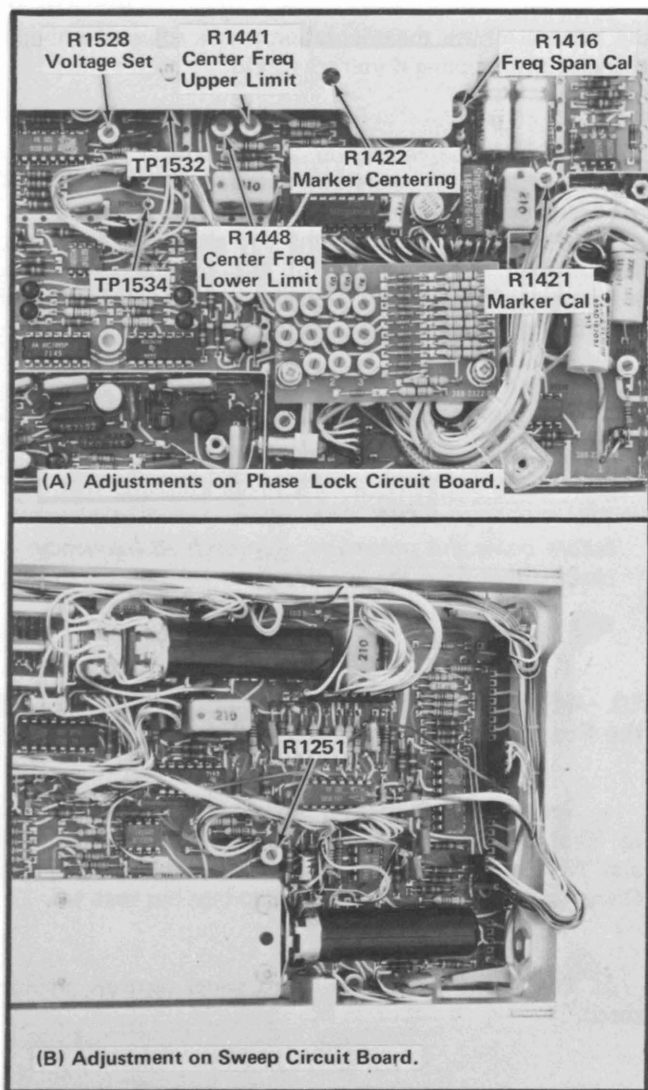

Fig. 4-12. Location of the adjustments for frequency span and marker (notch) calibration.
a. Set the 1st LO floating power supply output voltage to 25 V DC by connecting a voltmeter between TP1532 and TP1534 and adjusting Voltage Set R1528 (Fig. 4-12). Disconnect the voltmeter after the voltage has been set.
i. Adjust the Freq Span Cal R1416 (Fig. 4-12) for 1 marker/Div.